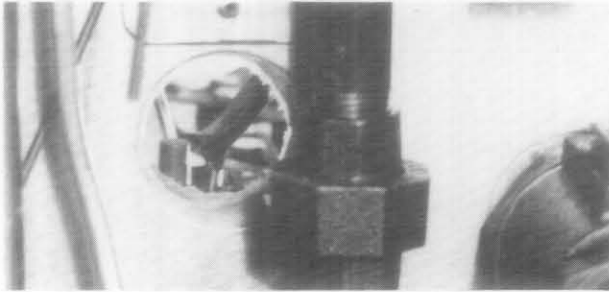

Figure 4
4. Push knob in, light pilot and continue to hold knob in for approximately 60 seconds after flame appears. Release the knob and pilot should remain lit. See Figure 4. If pilot does not remain lit